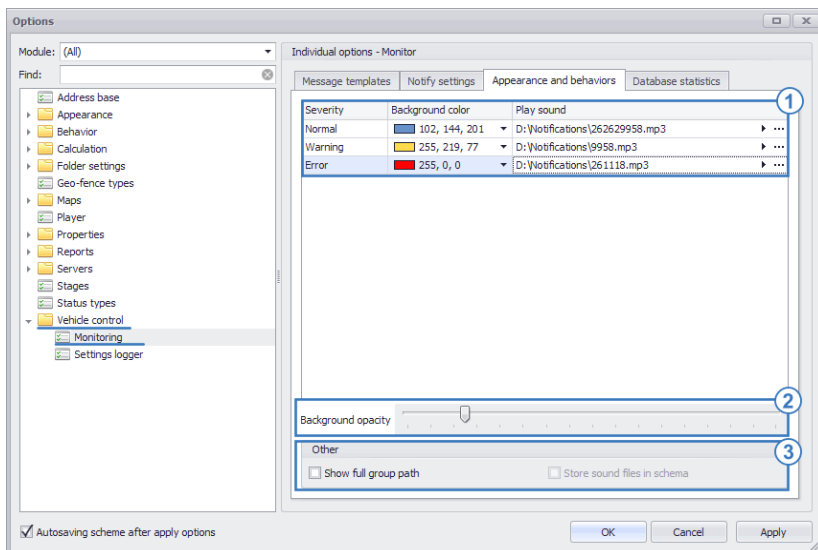

Fig. 171. Setting of Monitor module notifications.
To set up sounds and colors for notifications, as well as the pop-up message parameters, go to the section Vehicle control > Monitoring in the “Options” menu and select the “Appearance and behaviors” tab (Fig. 171).
By default the sound event notification is not set. On the “Appearance and behaviors” tab the user may select any other color for each type of notifications, and select a sound file which will be played back with the text notification (**Fig. 171, item 1**).
The pop-up notifications are displayed on the background with the selected color. To change the background opacity, set the “Background opacity” slider to the desired position (**Fig. 171, item 2**).
To display the full path to the vehicle in the vehicle list beginning with the root group in the notifications sent by Monitor module – pop-up messages and messages to the selected message delivery services, enable the “Show full group path” option (**Fig. 171, item 3**). For example, if the option is enabled, the path to the parent vehicle group will be as follows: *Root group/Freighters*, when *Freighters* option is disabled.